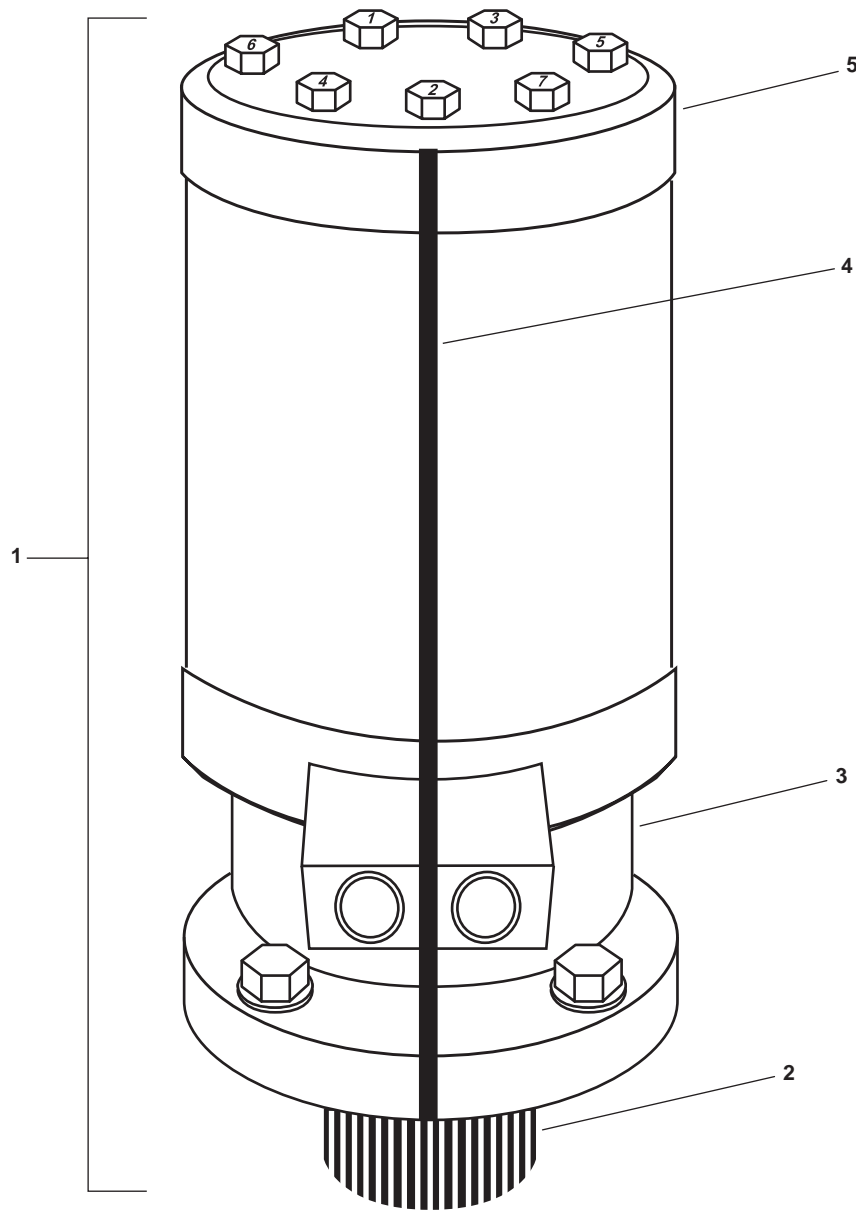

Figure 1. Torqmotor
1. Place the torqmotor (figure 1, item 1) in a vise with the coupling shaft (figure 1, item 2) facing down. Tighten the vise on the housing (figure 1, item 3).
2. Place the suitable drain pan under the torqmotor (figure 1, item 1).
3. Place a nonremovable alignment mark (figure 1, item 4) on the torqmotor (figure 1, item 1) from the end cover (figure 1, item 5) to the housing (figure 1, item 3) for assembly orientation.